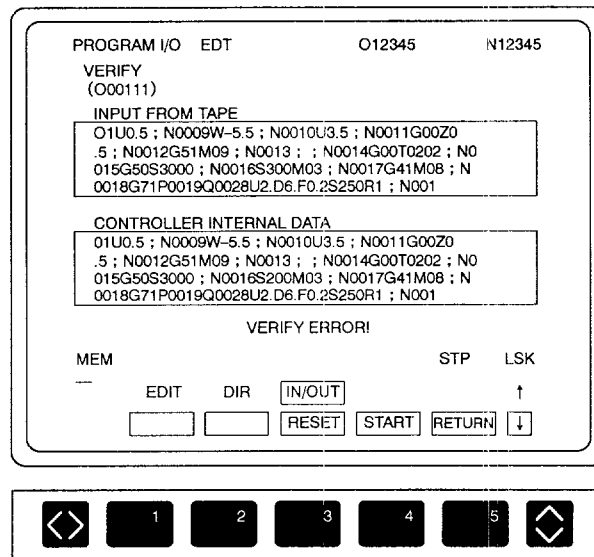

Fig. 4.46 Screen after Occurrence of Inconsistency
- ① Press the [VER] (f3) function soft-key.
- ② Press the [VER] (f3) function soft-key once again. The pop-up menu is displayed to allow the selection between “EACH” and “ALL” (Fig. 4.46).
- ③ Select “ALL” by moving the cursor with the cursor up/down keys and press the [WR] key.
- ④ The pop-up menu is cleared and the VERIFY (ALL) screen is displayed.